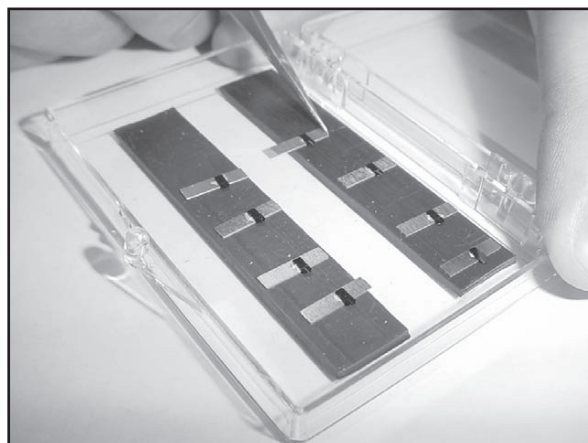

Figure 3.34: Nudge the Probe into Position
- Set the probe down onto the magnetic strip in the probe box so that the side of the substrate opposite the cantilever makes contact first. (Figure 3.34)
- Use tweezers to nudge a probe so that the substrate extends over the edge of the magnetic strip in the probe box (Figure 3.34).